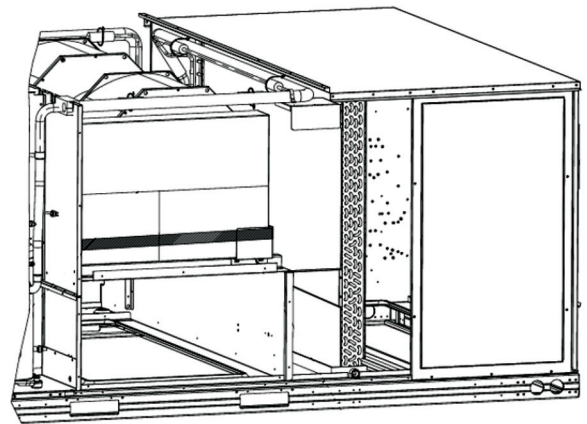

Fig. 28 — Barometric Hood Box Parts Location
2. Remove the side panels located in the hood parts box (see Fig. 28).